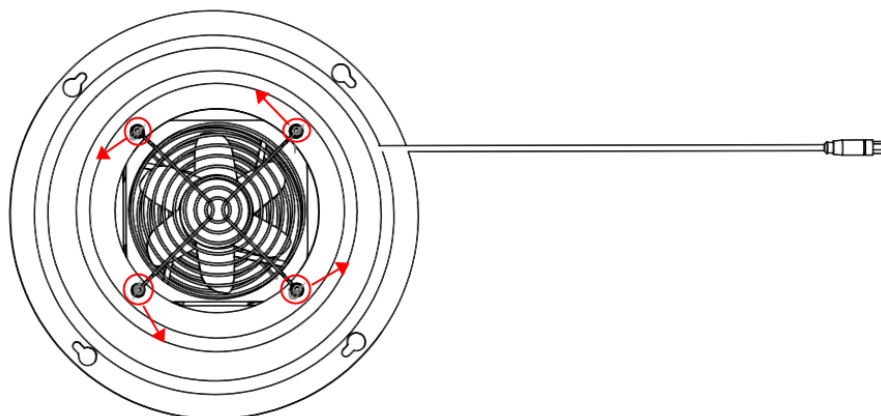

Figure 4-28 Remove the fan fixing screws
Step 2 Use a 3mm Allen wrench to remove and remove the four round head Allen screws that secure the fan assembly, as shown in Figure 4-28.